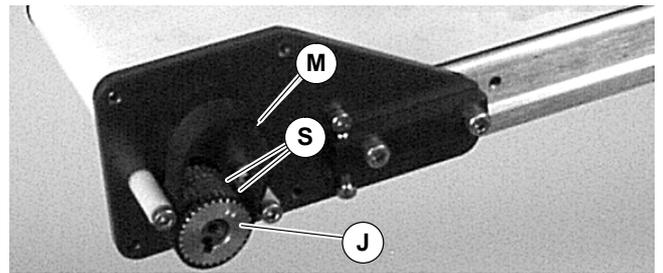

Figure 6
7. Install driven pulley (J of Figure 6). Tighten two (2) set screws to 3.7 Nm.
8. Place timing belt (M of Figure 6) over driven pulley (J) and between belt flanges (S).